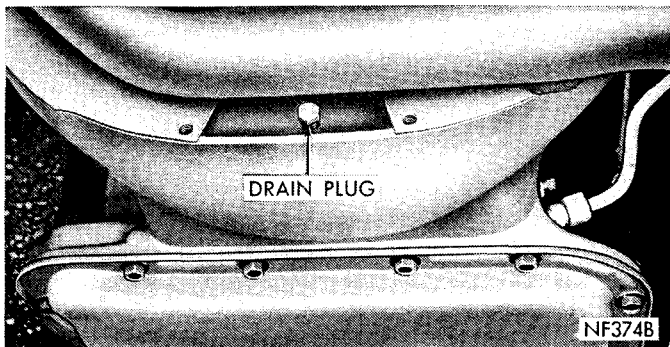
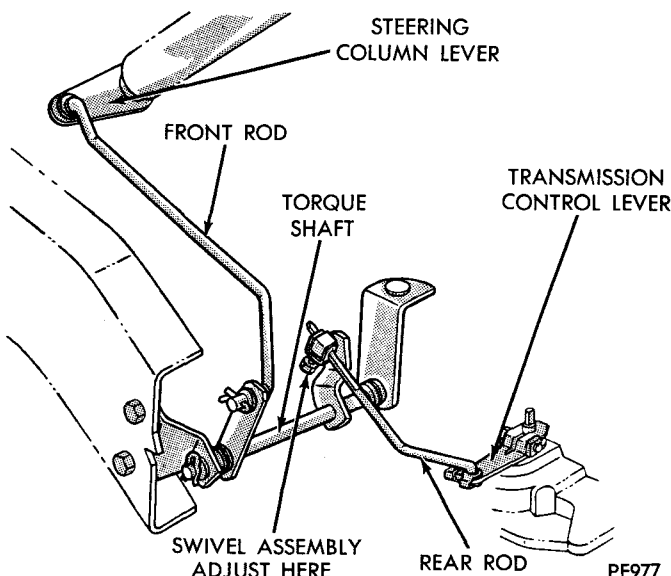

Fig. 3—Converter Drain Plug
Fig. 4—Column Gearshift Adjustment
(1) Raise vehicle on a hoist. Place a drain container with a large opening, under transmission oil pan.
(2) Loosen pan bolts and tap the pan at one corner to break it loose allowing fluid to drain, then remove the oil pan.
(3) Remove access plate in front of converter and remove drain plug using 5/16 inch six point socket (Fig. 4). Allow fluid to drain (Fig. 3). Install and tighten converter drain plug to 90 inch-pounds and install the access plate.
(4) If necessary, adjust the reverse band.
(5) Install a new filter on bottom of the valve body, and tighten retaining screws to 35 inch-pounds.
(6) Clean the oil pan, and reinstall using a new gasket. Tighten oil pan bolts to 150 inch-pounds.
GEARSHIFT LINKAGE ADJUSTMENT (Column Shift) (Fig. 4)